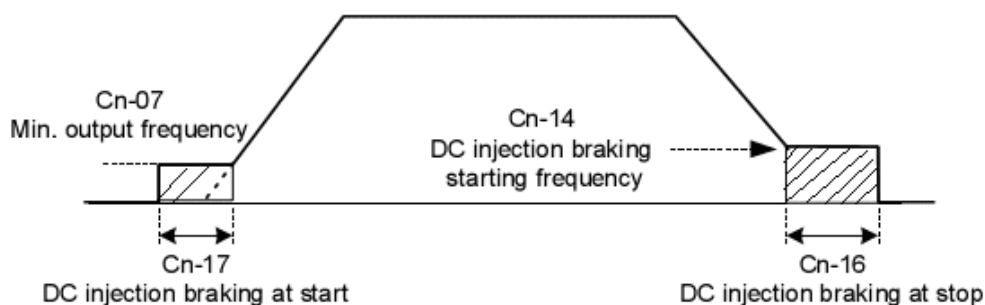

Fig.4-12 DC Braking Function
(6) Motor line-to-line resistance (Cn-12)
(7) Motor iron-core loss (Cn-13)
(8) DC braking starting frequency (Cn-14)
(9) DC braking current (Cn-15)
(10) DC braking time at stop (Cn-16)
(11) DC braking time at start (Cn-17)
- DC braking function as shown Fig.4-12